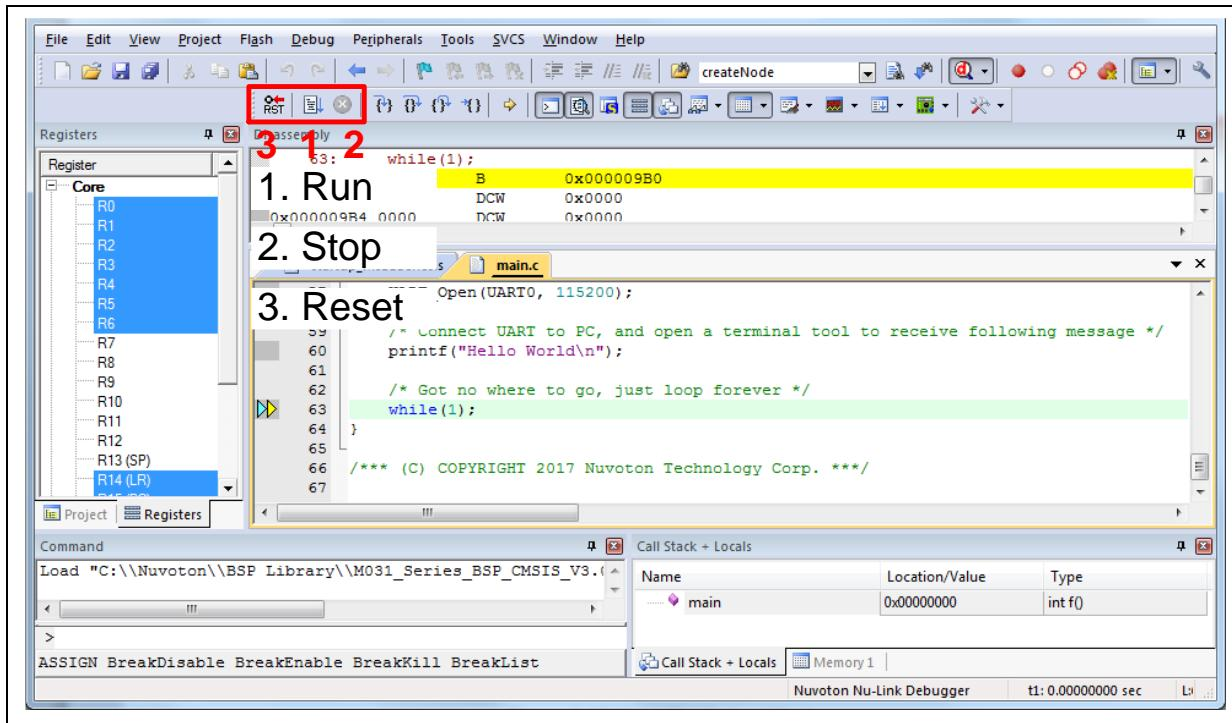
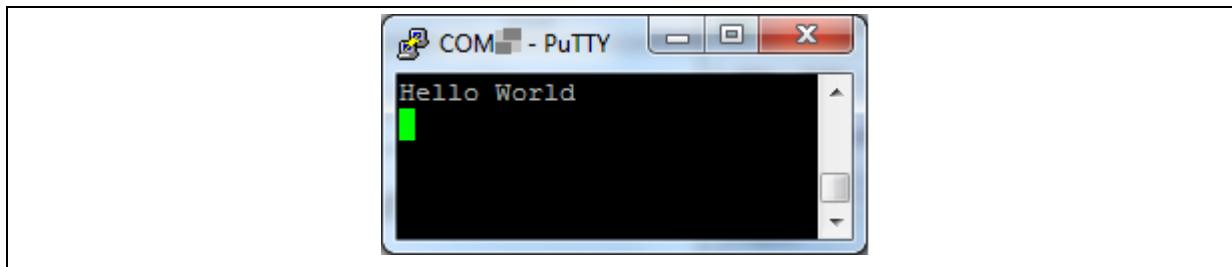

Figure 3-13 Keil MDK Debug Mode
Figure 3-14 Debug Message on Serial Port Terminal Windows
- Figure 3-13 shows the debug mode under Keil MDK. Click "Run" and the debug message will be printed out as shown in Figure 3-14. User can debug the project under debug mode by checking